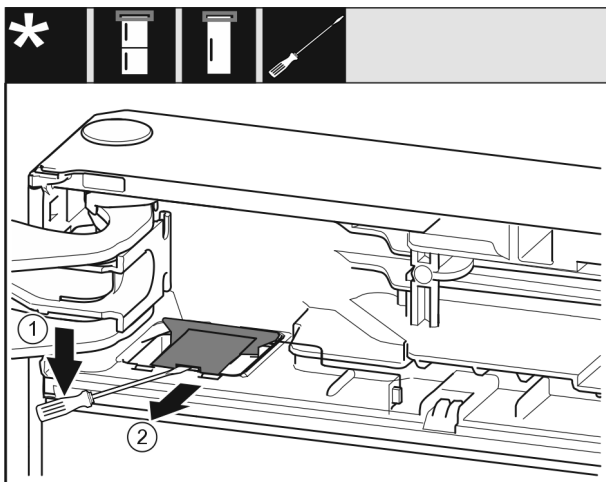

Fig. 11
- ▶ Use a flat-blade screwdriver to disengage the cover Fig. 11 (1).
- ▶ Remove the cover Fig. 11 (2).